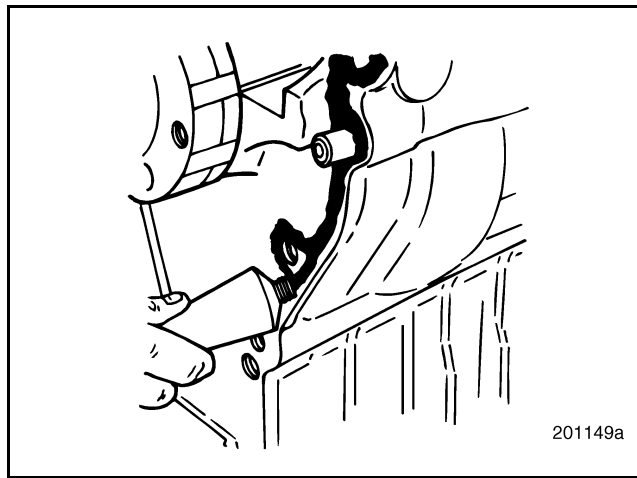

Figure 248 — Applying Sealant
4. Apply an even coat of Silastic[®] (approximately a 1/16-inch [2 mm] bead) to the flywheel housing mounting surface of the cylinder block. Refer to Figure 248.